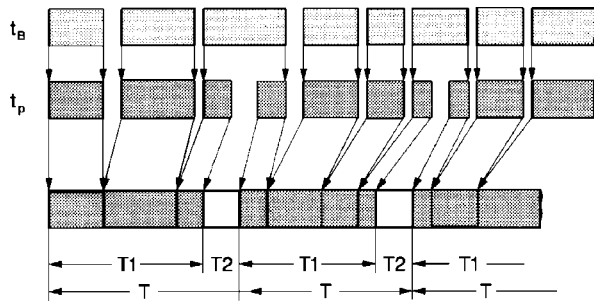

Fig.7 - Time sequence diagram
- The printed circuit board automatically controls the sequence of the pause and operating times of the 203 central lubrication pump as a function of the vehicle or machine working hours t_B (Fig. 7).
- A lubrication cycle consists of one pause time and one operating time. Once the pause time has elapsed, the operating time starts to run. This lubrication cycle is repeated permanently after the machine or vehicle has been put into operation. Refer to Fig. 7.